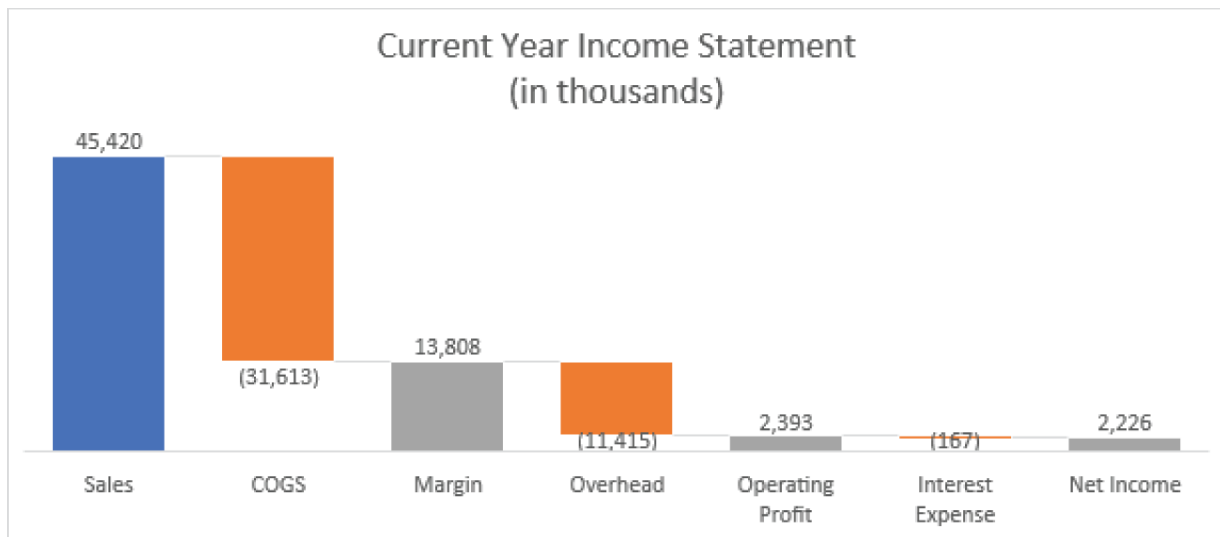

Figure 2.51: The Current Year Income Statement waterfall chart
8. Add line breaks to any axis labels that are too long, like Operating Profit and Interest Expense. In the source data cells, place your cursor where you want the line break and press Alt+Enter. The final waterfall chart is shown in Figure 2.51.